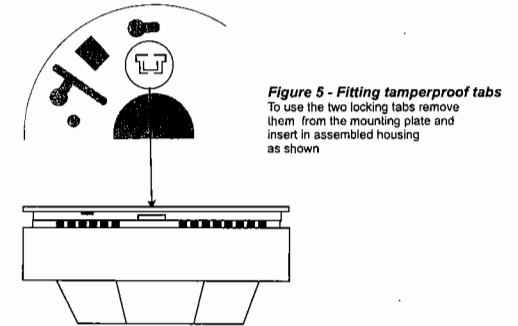

Figure 5 - Fitting tamperproof tabs
- If the Heat Alarm is to be locked into position the two tamperproof tabs need to be removed from the base plate. Retain until final assembly of alarm. Figure 5
- Insert the two tamperproof tabs in the positions provided between these base plate and alarm unit. Once fitted the alarm can only be removed from the base plate by first removing these tabs by gently prying out with a screw driver. See Figure 5